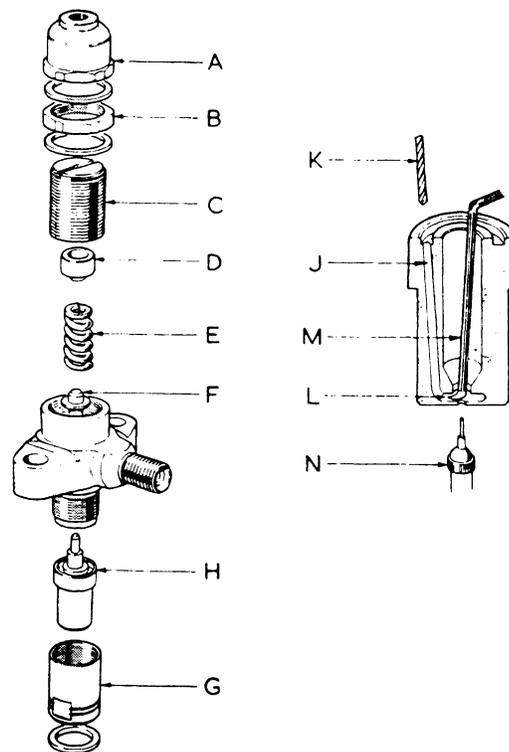

FIG. 18
**77. FUEL INJECTOR MAINTENANCE Fig. 18**
- (b) Remove the nozzle holder cap nut (A) and the locknut (B).
- (c) Remove the spring adjusting screw (C) and remove the spring pad (D), the spring (E) and the spring pressure rod (F).
- (d) Remove the nozzle nut (G) and the nozzle assembly (H). Each needle of a nozzle assembly is mated to one nozzle body and must never be used in another.
- (g) The nozzle body fuel holes (J) should be cleaned by pushing a wire or twist drill (K) down to the fuel chamber (L) being careful not to scratch the joint face.
- (h) Insert a nozzle scraper (M) down into the fuel chamber, press sideways and rotate to remove carbon, etc.
- (j) Soft carbon can be removed from the spray hole with a spray hole cleaner (N).